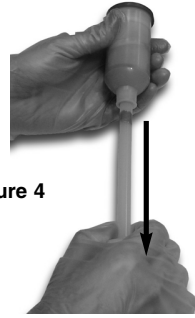

Figure 4
6. Pull the mixing rod up to the top of the cartridge. See Figure 4.